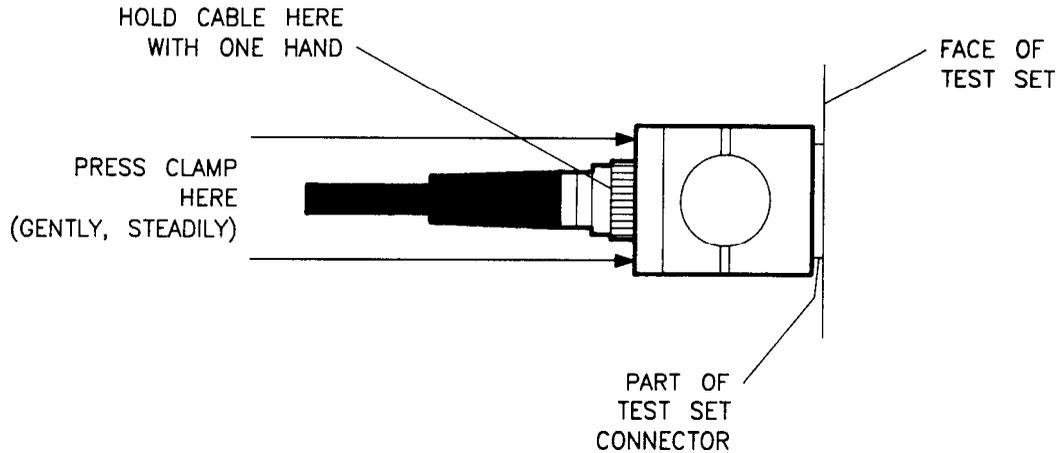

Figure 3-8. *Mating the Clamp and Nut Flats*
- See Figure 3-8. Hold the cable with one hand and with the other, press the clamp gently and steadily while wiggling the clamp straight over the RF connector and onto the test port connector nut. The internal flats in the clamp must fit over the flats on the test port connector nut. Try not to rotate the clamp as you do this or the RF connection may be loosened.